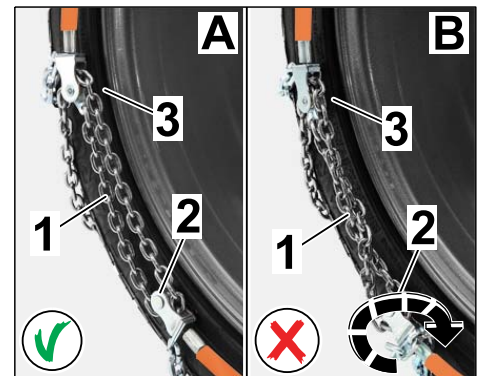

Figure 8
2.2.2 Check that the tensioning chain is running parallel at the tensioning point and deflection roller (end of spring steel clip on inside of wheel) (⇒ *Figure 8 -A-*) and is **NOT** twisted (⇒ *Figure 8 -B-*).
Turn deflection roller for spring steel clip if necessary (⇒ *Figure 8 -arrow-*).